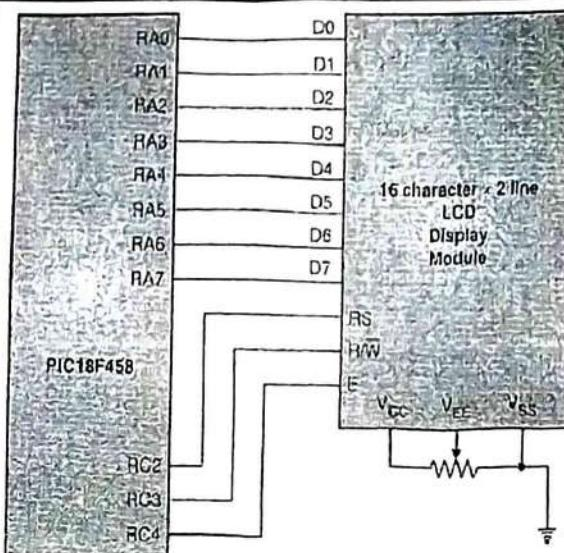

Fig. 7.5.5: Interfacing 16 \times 2 LCD to PIC18
- Fig. 7.5.5 shows the interfacing of a 16 character \times 2 line LCD modules with the microcontroller PIC18F458. The data lines are connected to Port 1 of PIC18F458. The control lines RS, R/W and E are driven by P 3.2, P 3.3 and P 3.4. The voltage at V_{EE} pin is adjusted by potentiometer to adjust contrast of LCD.